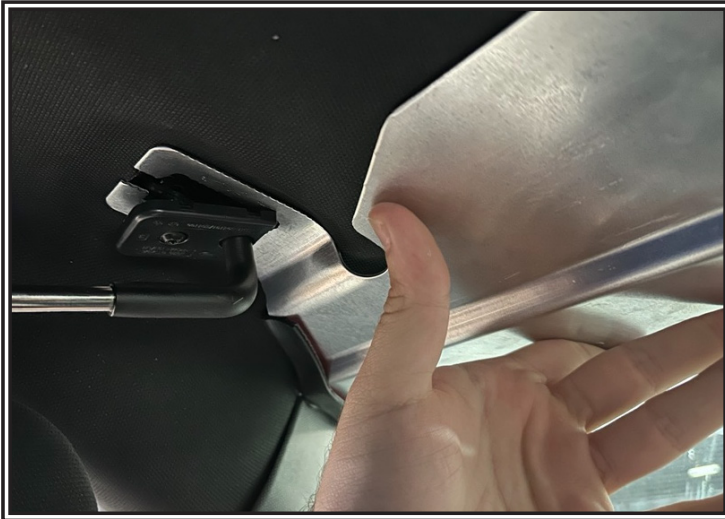

Figure 1
2. Place Supervisor housing between sun visor pivot and headliner and reinstall sun visor pivot. See Figure 1.